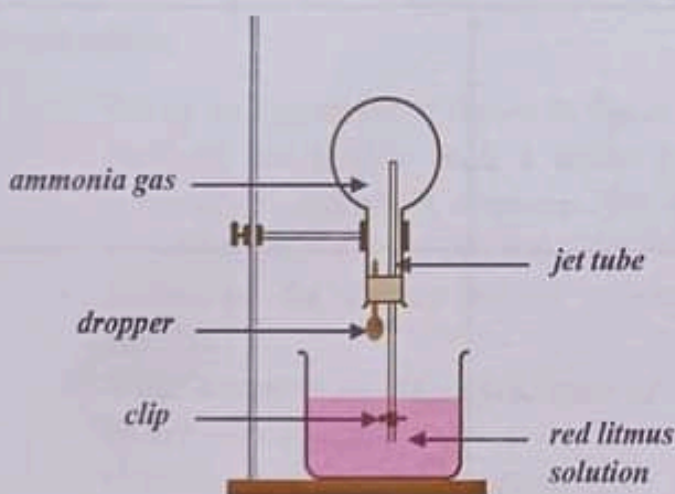

Figure 1 Set-up for the Ammonia Fountain
- Quickly invert the flask into the beaker of red litmus solution as shown in Figure 1.